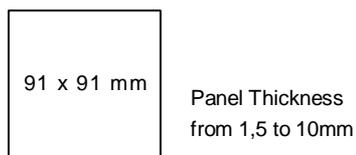

Figure 1. Panel cutout
- Make a panel cutout according to the dimensions in Figure 1.